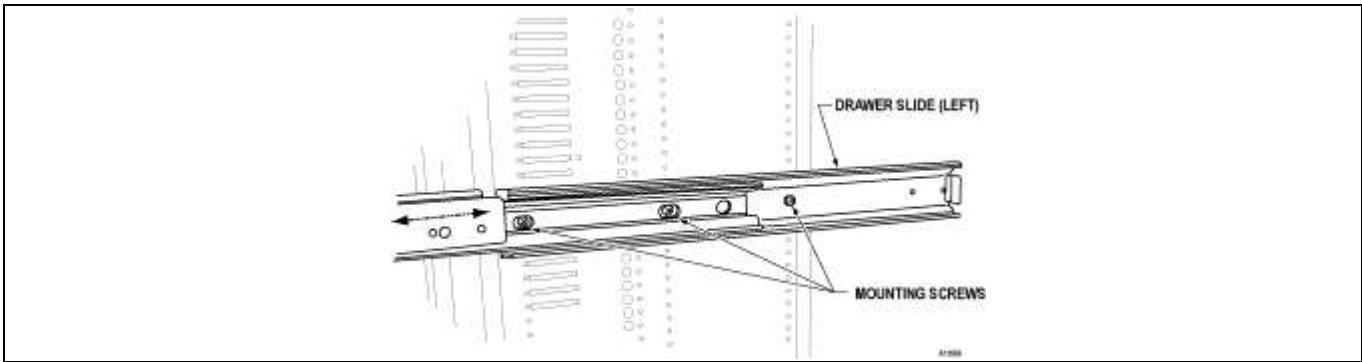

Figure 6e. Drawer Slide (Left Shown)
4. Remove and save the drawer slide mounting screws of both the left and right drawer slides. (Figure 6e).